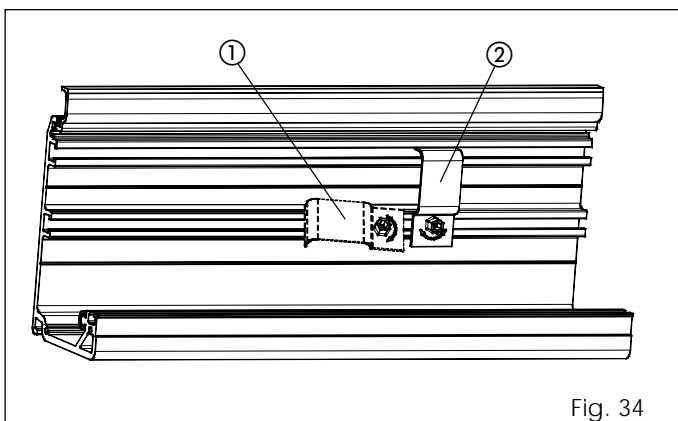

Fig. 34
Fit the supplied cable sleeves parallel to the profile (fig. 34 ref. ①) and then turn them by 90° to secure them (fig. 34 ref. ②).